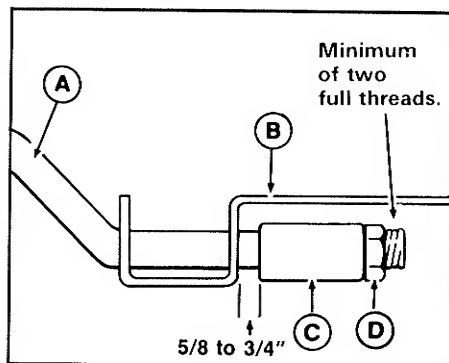

Figure 30. Brake Adjustment
4. Locate the brake band (figure 30) which is located to the inside of left-rear tire.
6. Measure the gap between the spacer and the brake band (figure 30). The gap should measure between 5/8 inch and 3/4 inch (16 to 19 mm). If not, loosen or tighten the brake rod nut (D) to achieve measurement. For safety, a minimum of two full threads must extend thru the nut.